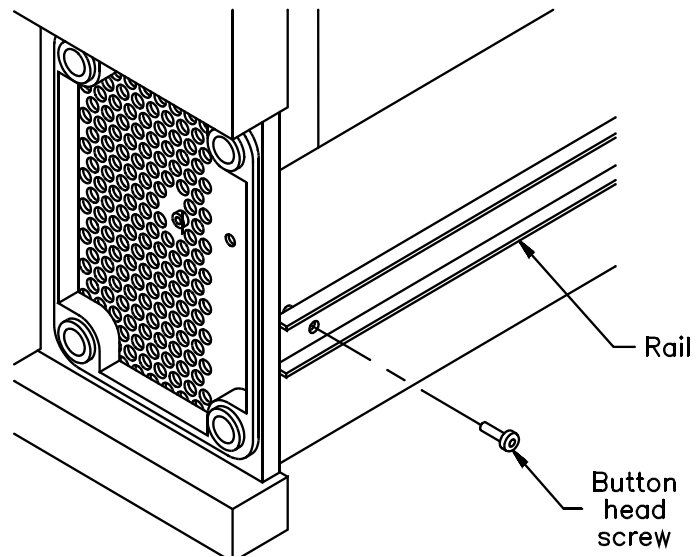

Figure 7-2 Removing the screws from the sides of the library
5. Use a T-15 TORX driver to remove the two button head screws attaching the rails to the sides of the library, as shown in Figure 7-2.